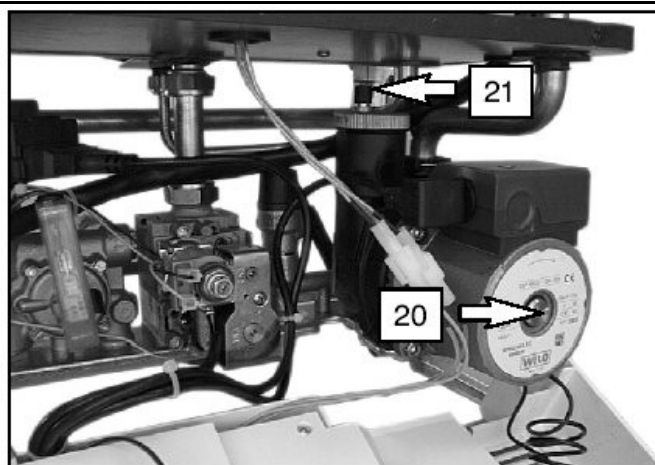

Fig. 6.45
3. Unscrew the cap on the automatic air purger valve 4.1 (Fig. 6.45) one full turn and leave open permanently.
6. Purge the air from the pump by unscrewing the pump plug 4.1 (Fig. 6.45); release the pump by turning the rotor in the direction indicated by the arrow on the information plate.